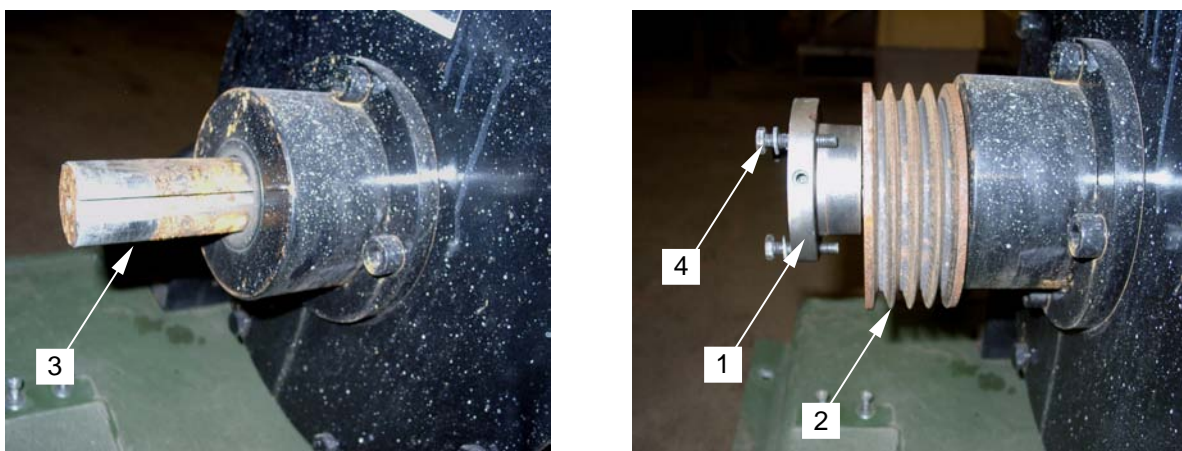

Figure 29. Removing the Engine Pulley and Rim
- c. Keep tightening the bolts in a star pattern until the pulley adapter (**figure 29, item 1**) is extracted. Recover and retain key.
- d. Remove the pulley (**figure 29, item 2**) and pulley rim from the drive shaft (**figure 29, item 3**).
- a. Place pulley (**figure 29, item 2**) with deep stop towards engine onto drive shaft (**figure 29, item 3**).
- b. Ensuring that the key is in place, install pulley adapter (**figure 29, item 1**) onto drive shaft.
- c. Install three bolts and flat washers (**figure 29, item 4**) to secure the pulley in place.